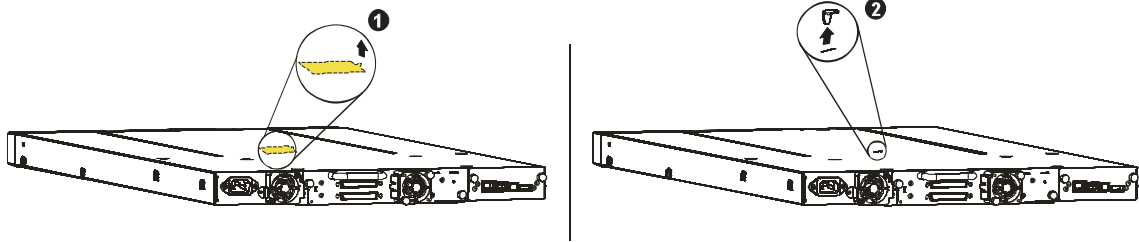

Figure 2 Shipping lock and label
1. Remove the yellow label that is securing the lock to the top of the loader, and then remove the lock (see Figure 2).